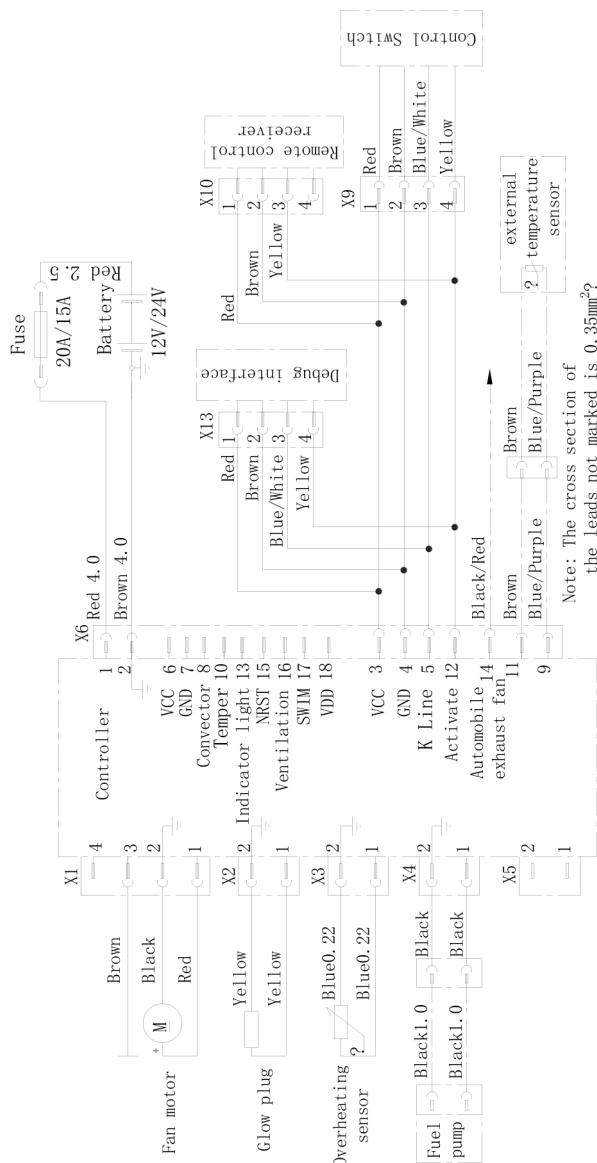
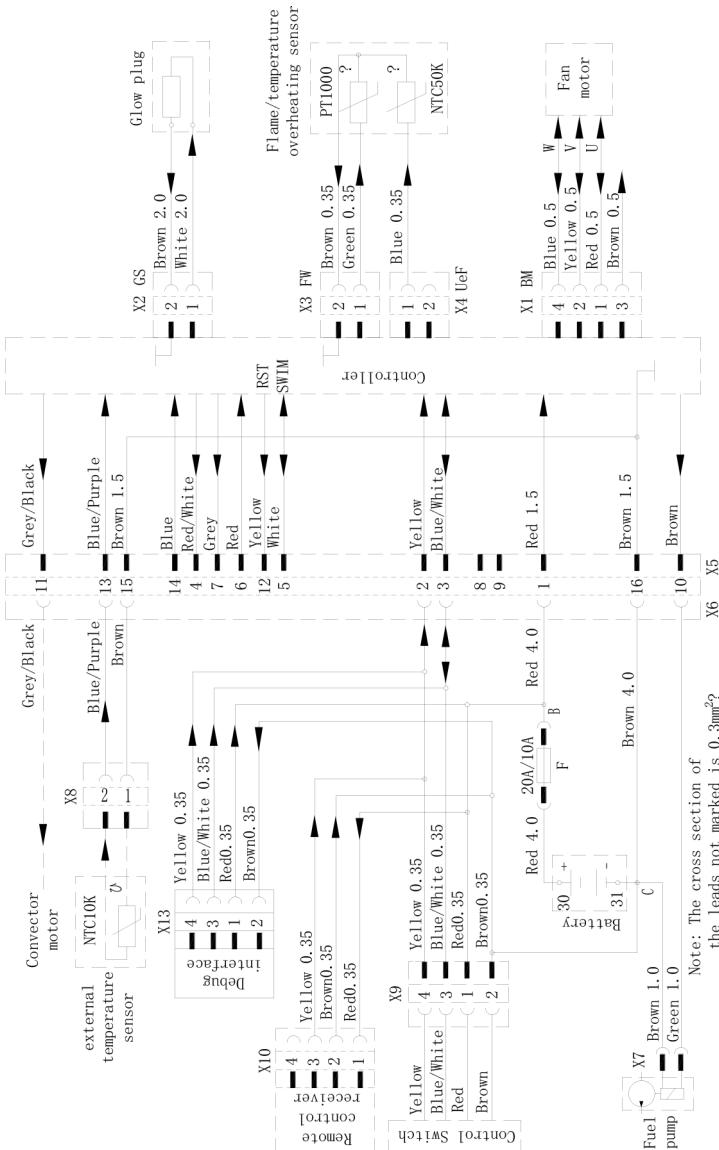

Fig. 41
Fig 42
- The wiring diagrams for the heater are shown in Fig. 41 (Page 120) and in Fig. 42 (Page 121).